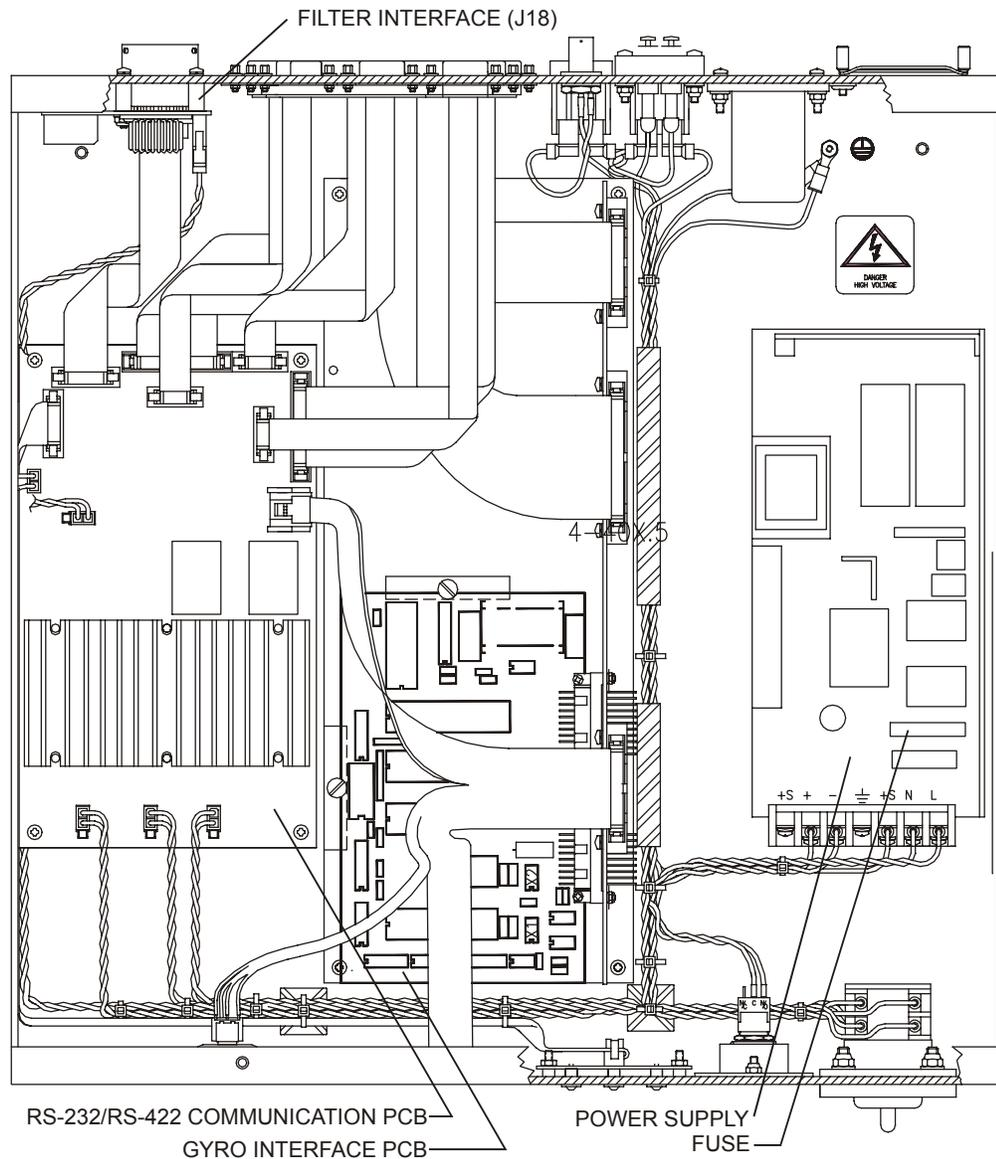

Figure 5. Deck Box (Top View)
| Figure 5. | Deck Box (Top View) | 8 |
Memory cards are not included with the Mariner ADCP. Two PCMCIA memory card slots (see Figure 5, page 8) are available, with the total memory capacity not to exceed 2GB. The PC Card recorder is located on the Digital Signal Processor (DSP) board inside the Workhorse's electronics. To recover data, the card can be removed and used in a personal computer (PC), or left in the Workhorse, and accessed by using *WinSC* (see the WinSC and PlanADCP User's Guide).
- c. Locate the Filter Interface board (see Figure 5, page 8). Locate connector J18 and disconnect the twisted black and white cable plugged into this connector. The power from the deck box to the ADCP has now been disabled. Only the batteries are powering the ADCP.